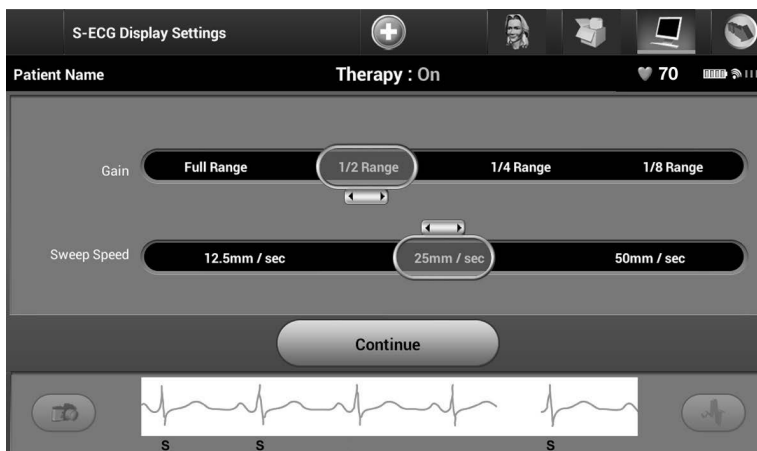

Figure 42: Adjusting Gain and Sweep Speed
2. Select and drag the Gain or Sweep Speed Scale bars as desired (Figure 42). The S-ECG scale will change according to the selected setting. The gain setting controls the visual gain. The programmer defaults to Full Range for SQ-RX devices with a gain setting of x1 and to 1/2 Range for SQ-RX devices with a gain setting of x2. The Sweep Speed slider controls the display speed of the scrolling Live S-ECG. The nominal sweep speed setting is 25 mm/sec.